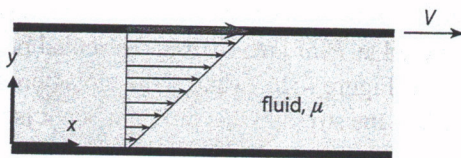

Figure 4.76
40. For the flow shown in Figure 4.76, a fluid is trapped between two long, wide plates and the upper plate is made to move at a speed V in the x -direction. This is Newton's experiment, called *drag flow*. The pressure is everywhere atmospheric. It takes some force to move the upper plate. Does the pressure (normal force/area) have a role in determining the force that it takes to move the top plate? State your reasoning.